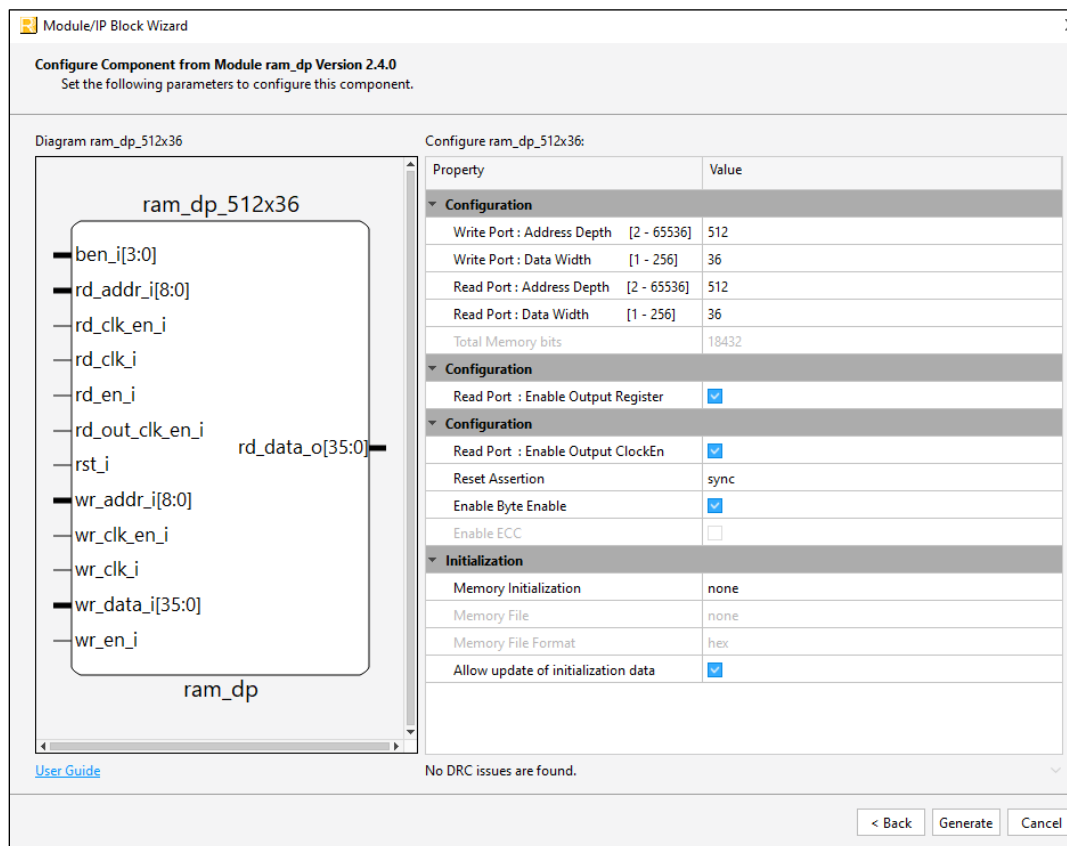

Figure 2.4. Example: Generating Pseudo Dual-Port RAM ram_dp Module Customization – General Options
4. Customize the EBR-based DPRAM in the **Module/IP Block Wizard** window, as shown in Figure 2.4.